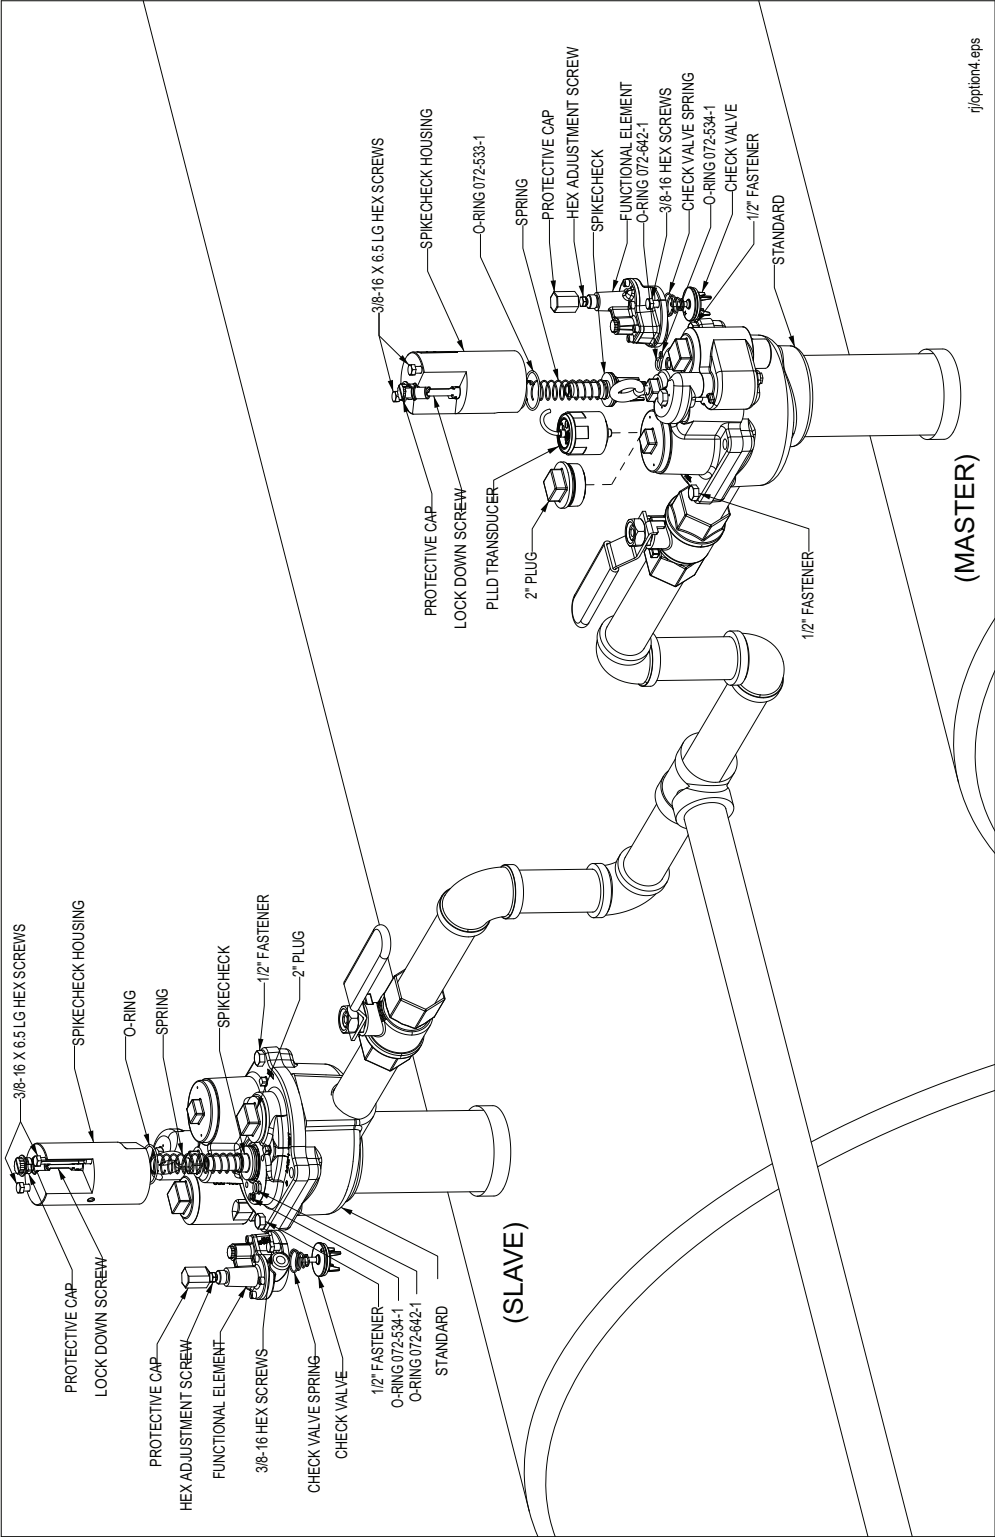

Figure 4. Option 4 – Manifolded Systems – Converting a Standard Packer/Manifold Containing an Adjustable Functional Element
2. Depressurize the packer by removing the protective cap on the functional element and rotate the hex screw counterclockwise to relieve pressure back to the fuel storage tank (See Figure 4).